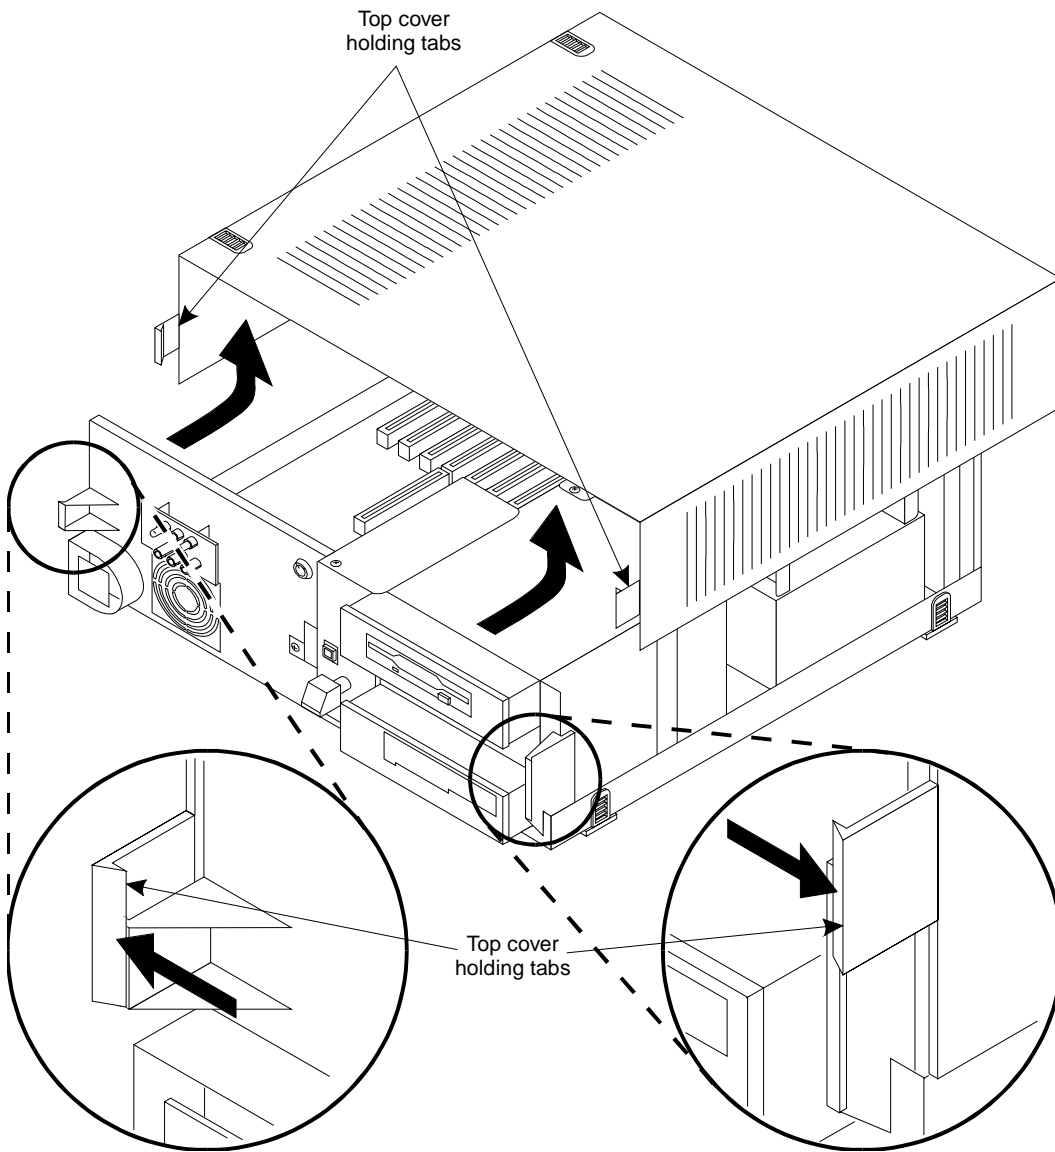

Figure 2-10. Removing the Top Cover on the MAP/5
This procedure assumes that you have already removed the front panel. See Figure 2-10.
2. Press the holding tabs outward while pushing the top cover away from you. See Figure 2-10.